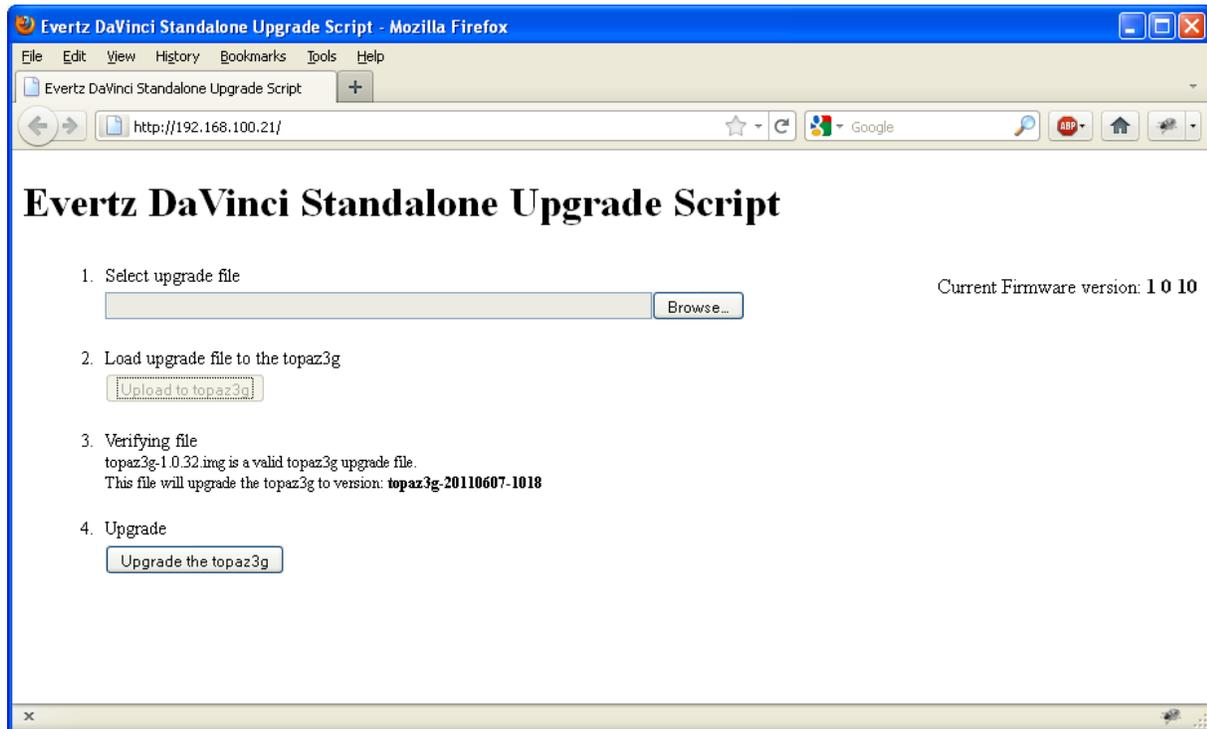

Figure 7-3: EQT Upgrade Screen for Upgrade
- Once the file is uploaded, it will be verified by the system to ensure it is valid. If the file is valid, an *Upgrade* button will appear below, as show in Figure 7-3.